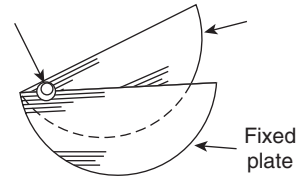

Figure 6.14
- Variable air capacitors.** These usually consist of two sets of metal plates (such as aluminium), one fixed, the other variable. The set of moving plates rotate on a spindle as shown by the end view of Fig. 6.14.